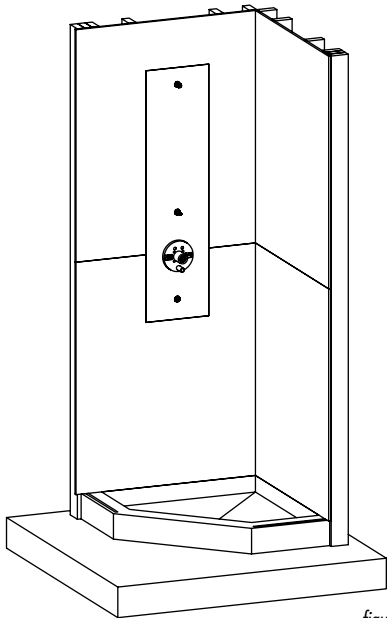

figure 17
3. Repeat steps 1-2 until cement board covers all surfaces. Extend the cement board to at least the outside edge of the pan. If it would make installation easier you can extend the cement board further outside of the pan (*fig. 17*).